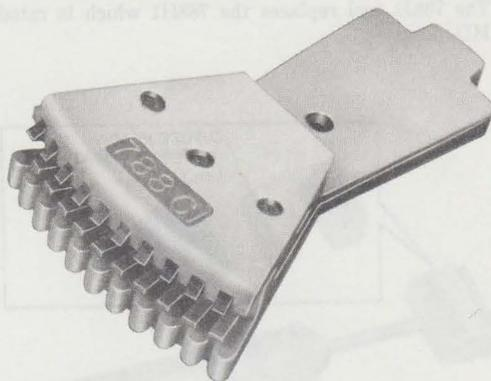

Fig. 10—788C1 Tool, 5-Pair Cutoff Tool
2.13 The 788C1 cutoff tool head (Fig. 10) mounts in the 788A1 tool handle and is used to cut five cable pairs at one time on the index strip after proper insertion.